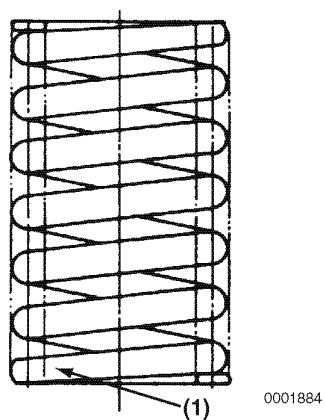
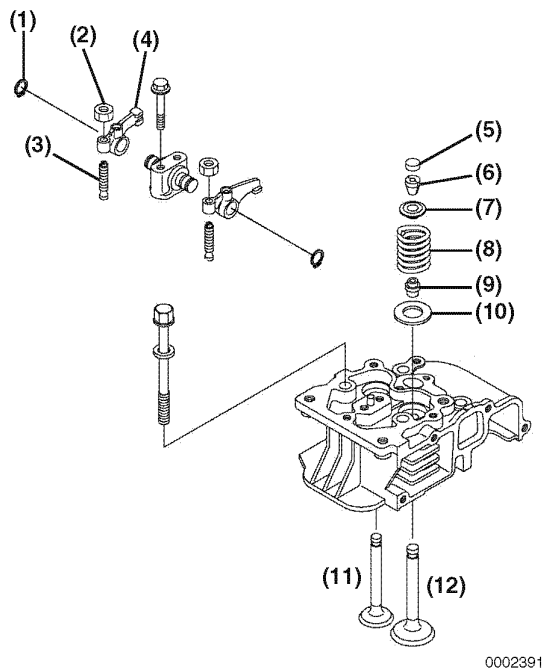

Figure 8-21
Figure 8-22
3. Place the valves (**Figure 8-22, (11, 12)**) in their proper locations in the cylinder head. **NOTICE:** L100V models: Position the white paint mark (**Figure 8-21, (1)**) on the valve spring toward the cylinder head during assembly.
6. Insert the valve keepers (**Figure 8-22, (6)**) and slowly release the tension on the valve spring. Install the valve cap (**Figure 8-22, (5)**). Repeat the steps on the remaining valve.
7. Install the rocker arms (**Figure 8-22, (4)**) on the rocker shaft. Secure with a snap ring (**Figure 8-22, (1)**) on each end. If removed, install the adjuster screws (**Figure 8-22, (3)**) and locknuts (**Figure 8-22, (2)**) in each rocker arm.
4. Place the cylinder head on the workbench with the combustion side down. Install the washer (**Figure 8-22, (10)**), valve spring (**Figure 8-22, (8)**) and spring retainer (**Figure 8-22, (7)**).